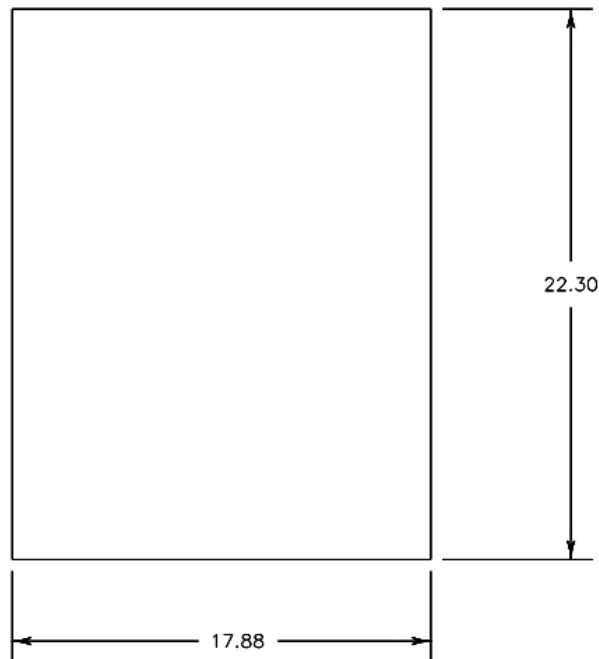

FIGURE 13/ GRAPHIC 25-23-03-991-013
- C. Trim replacement inner lens to size, ref table for proper sizing. (See FIGURE 13/ GRAPHIC 25-23-03-991-013) or match size w/ damaged inner lens.